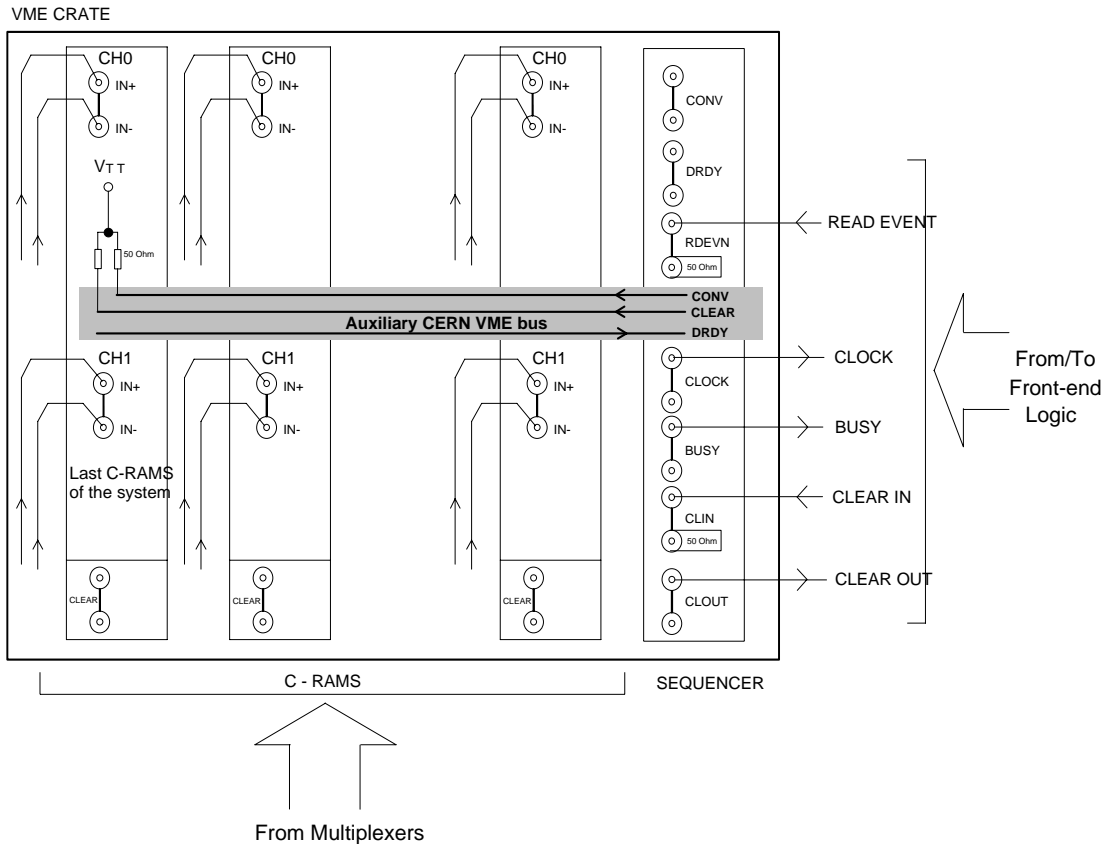

Fig. 4.1: System Layout with connections via Auxiliary VME bus.
(refer to fig. 4.1)
N.B.: With the layout shown in Fig. 4.1, it is convenient to set the -5 V power supply selection jumper to AUX. This allows to reduce the power consumption on the -12 V power supply.